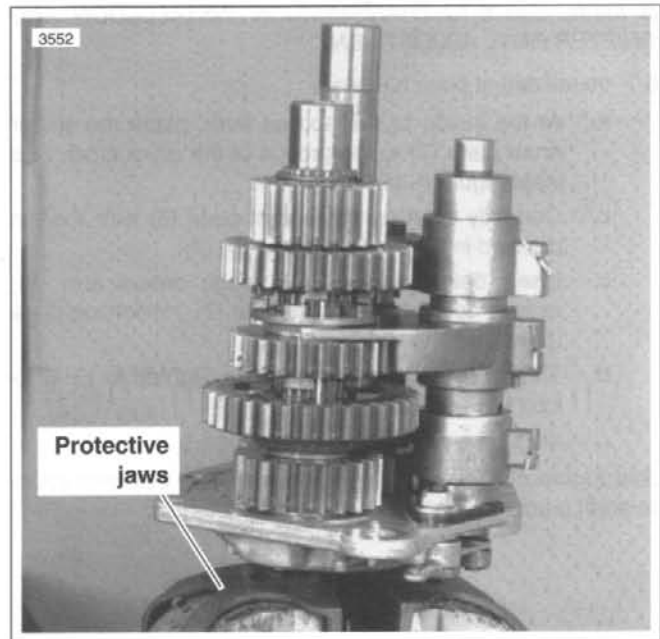

Figure 6-36.
1. Remove transmission assembly. See 6.7 TRANSMISSION CASE. See Figure 6-36. Clamp transmission assembly in a vise, with protective jaws, to work on disassembly.